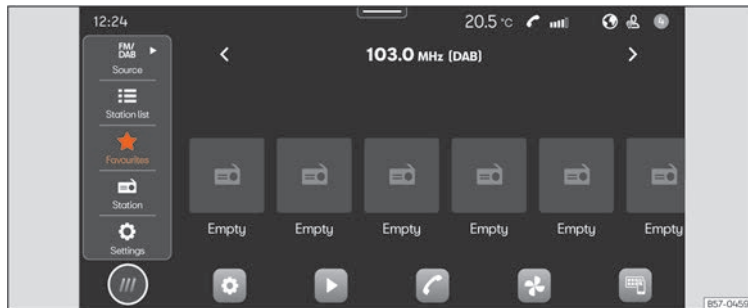

Fig. 140 Schematic diagram: Radio view.
- Press **HOME** > >>> **Fig. 140**.